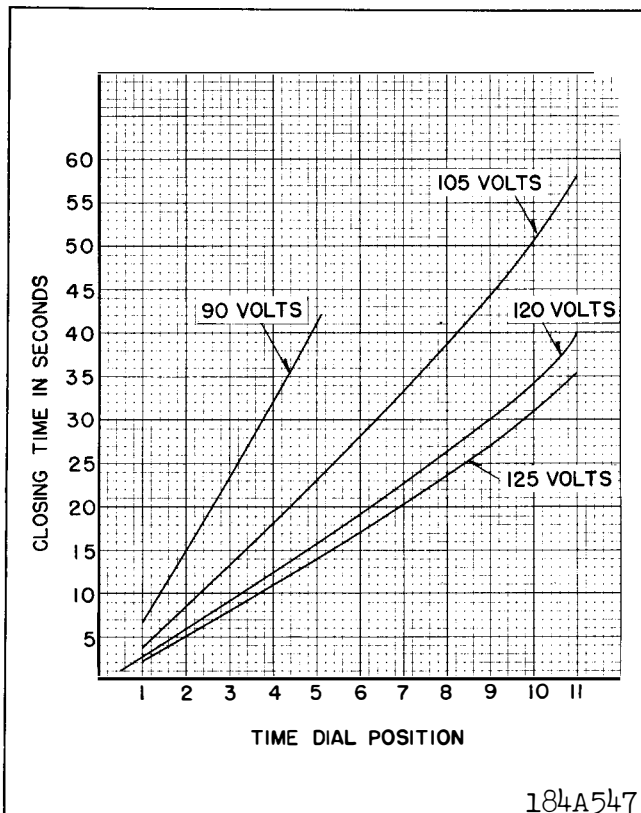

Fig. 4. Typical Time Curves of the Timer Unit of the 120 volt Type CRN-1 Relay. Proportional voltage apply for the 208 volt relay.
The timer unit is rated at 120 or 208 volts, 60 cycles. The minimum trip value is 54% of rated voltage. The continuous overload capacity is 100% of rated voltage. Characteristic time curves are shown in Fig. 4 for various voltages and time lever settings.
it is adjusted by the time dial position. Fig. 4 gives a curve of time delay vs time dial setting for various impressed voltages. Time is approximately proportional to time dial setting.
3. Time Curve – Fig. 4 shows the time curve for the CRN-1 relay. With the time dial set to the indicated position, apply the voltages specified and measure the operating time of the relay. The operating times should equal those of Fig. 4 plus or minus 5 percent.